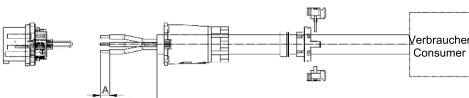
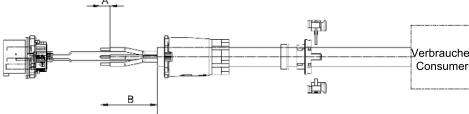
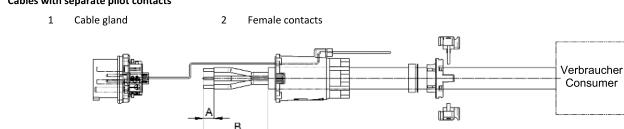

Fig. 6: Schematic for cables without pilot contacts
Fig. 7: Schematic for cables with integrated pilot contacts
Fig. 8: Schematic for cables with separate pilot contacts
- Proceed as specified in Fig. 6 if no pilot contacts are present. Control pilot loop (Fig. 6/2).
- Proceed as specified in Fig. 7 if pilot contacts have been integrated.
- Proceed as specified in Fig. 8 if the pilot contacts are separate.
1. Pull the cable gland (Fig. 6/1, Fig. 7/1, Fig. 8/1) over the cable. Strip off the exterior insulation along length B (Fig. 6, Fig. 7, Fig. 8).
2. Strip the insulation off each individual line along length A (Fig. 6, Fig. 7, Fig. 8).
3. Length C (Fig. 7) represents the length of the integrated pilot contact
5. Screw the female contact (Fig. 6/2, Fig. 7/2, Fig. 8/2) to the cable.